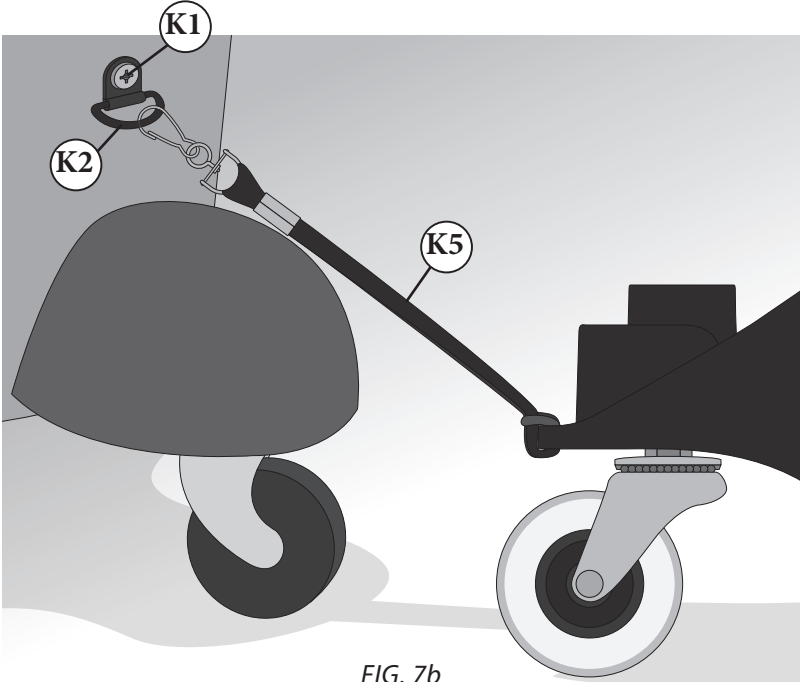
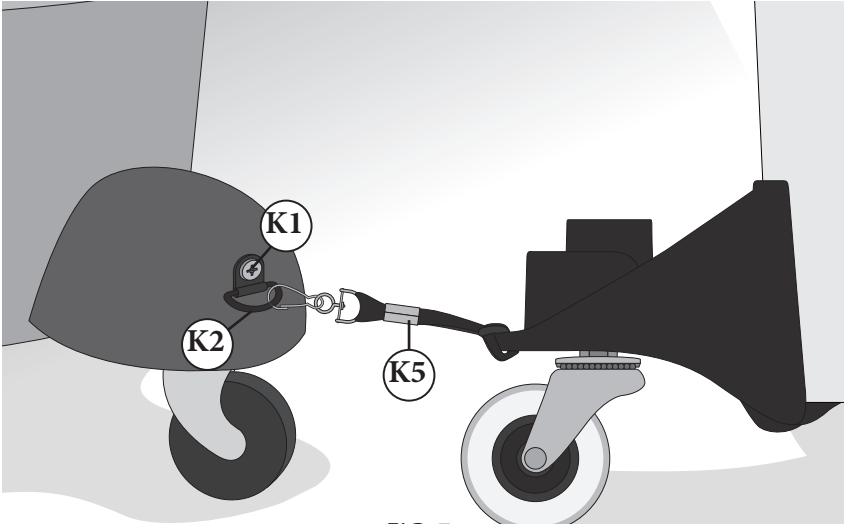

FIG. 7b
FIG. 7c
- b. Attach the D ring (K2) to the vacuum with the Sheet Metal Screw. (K1) Then loop the Lanyard (K5) around the slot on the Caster Mount and through itself. Finally, clip the Lanyard to the D ring [FIG 7b] [FIG 7c].